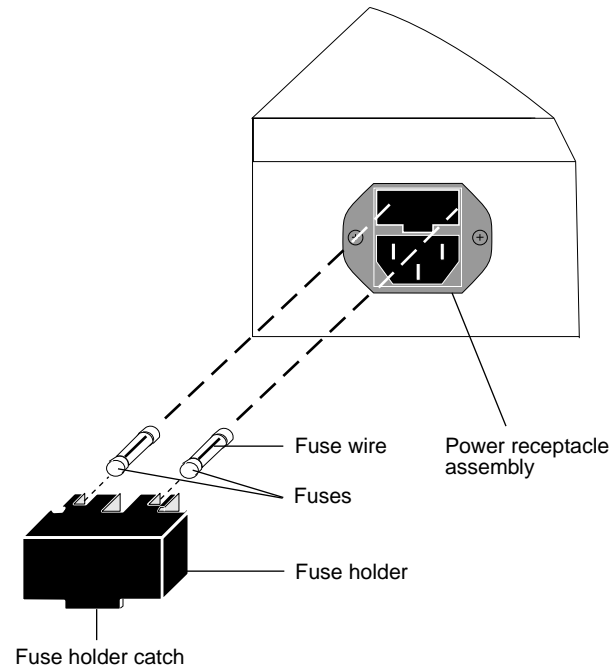

Figure 6-1 Accessing the AC Power Fuses
- 2 Release the fuse holder by gently levering the screwdriver under the fuse holder catch. See Figure 6-1.